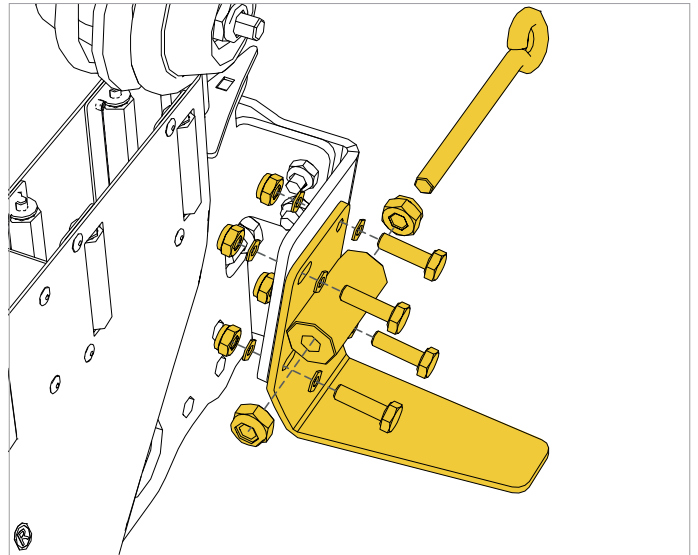

Fig. 4.3.4 Mounting the rope connector plates to the crab
- Attach both rope connector plates to the crab using 4x M4x20 bolts for each bracket. Attach the rope eye brackets with 2x M8 nuts, with the eye facing out. Refer to fig. 4.3.4